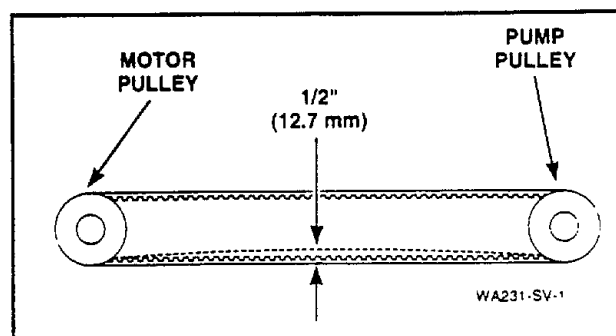

Figure 71
- Shift front of pump mounting bracket to the right or left to obtain proper belt tension. Proper tension is when belt can be deflected approximately one half inch (12.7 mm) from its normal position by applying moderate pressure (one and one half pounds — .675 kg) to a point midway between pulleys, *Figure 71*.